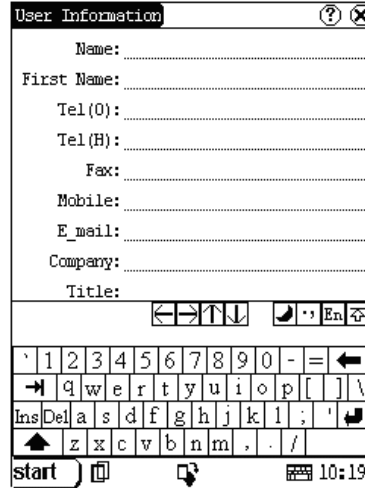

Fig 2-11
- 3) Click the characters on Soft Keyboard to enter data. (Refer to Fig.2-11)